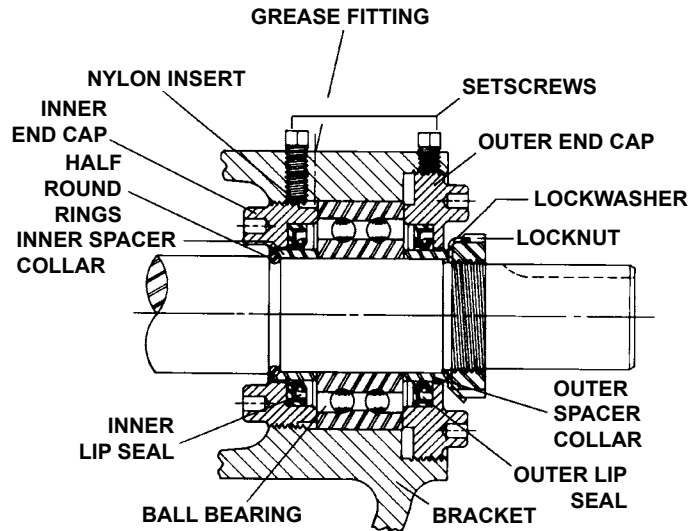

FIGURE 5
8. Loosen the four setscrews over the outer and inner end caps. Remove both end caps, ball bearing and bearing spacer collars. **See Figure 5.** **NOTE:** The inner end cap can be removed through the side openings in the bracket.